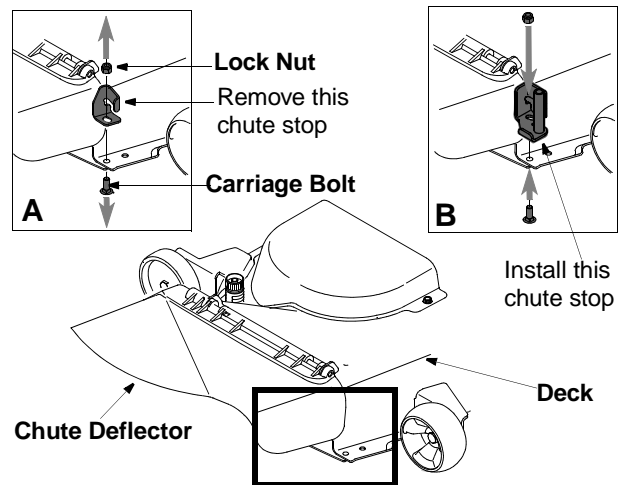

Figure 6
- Remove the carriage bolt and lock nut holding the chute stop to the deck. See Inset A of Figure 6. Save the hardware.
- Replace with new chute stop bracket, from the bagger kit, at the same position on the deck. See Inset B of Figure 6.